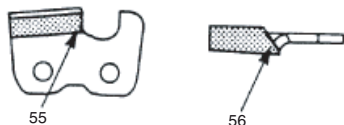

Fig. 47
6) File enough to remove any damage to cutting edges (side plate (55) and top plate (56)) of cutter. (Fig. 47)